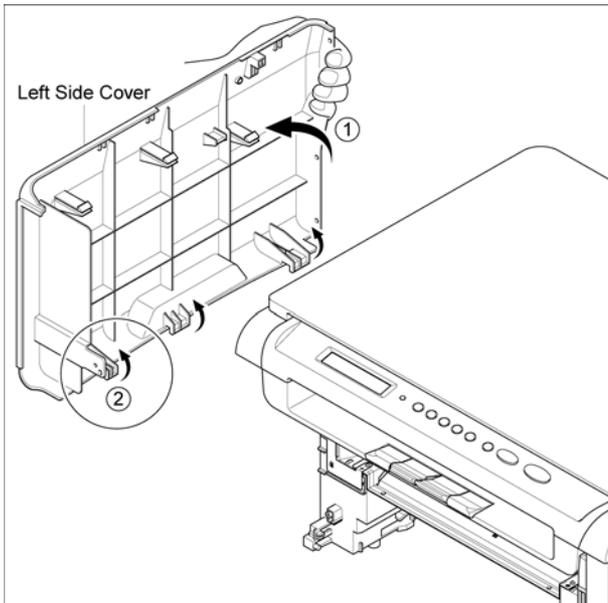

Figure 2
4. Gently flex the Left Side Cover in the direction of the arrows then remove the Left Side Cover, Figure 2.